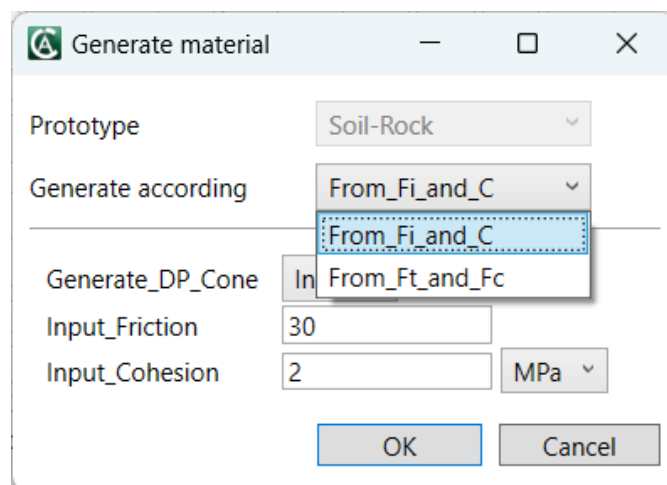
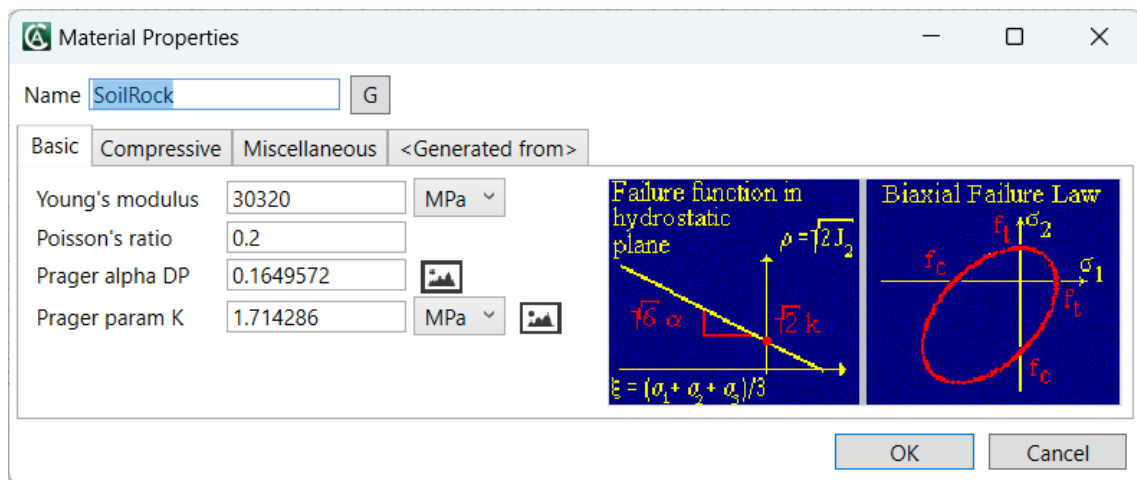

Fig. 4-17 Soil-Rock – Generate material dialog.
Fig. 4-18 Soil-Rock – Material parameters.
**Soil-Rock** material is useful for defining subsoil. It utilizes Drucker-Prager plasticity model that can be generated by combination of friction angle and cohesion or by compressive and tensile strength, see Fig. 4-17. Generated parameters of model can be adjusted, Fig. 4-18.